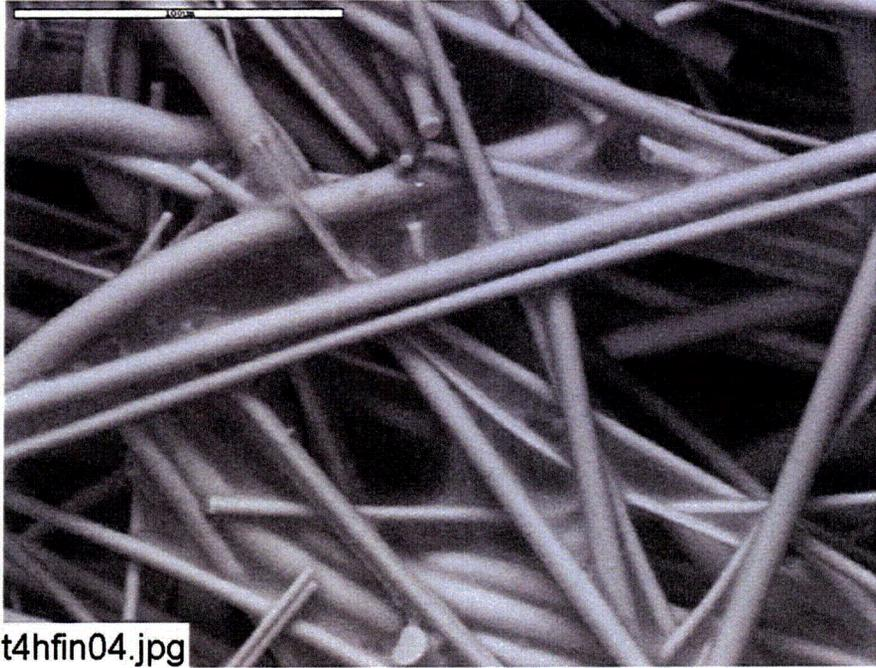

Figure C4-9. Environmental SEM image magnified 500 times for a Test #4, Day-30 interior high-flow fiberglass sample. (t4hfin04.jpg)
- Figure C4-9. Environmental SEM image magnified 500 times for a Test #4, Day-30 interior high-flow fiberglass sample. (t4hfin04.jpg)..... C4-8